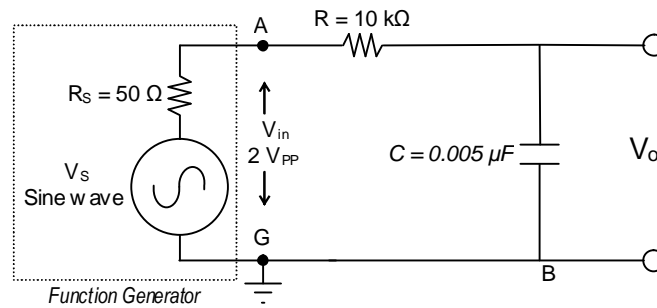

Figure 7.2 Low-pass filter
- b. Using the measured components, set up the circuit as shown in Figure 7.2. Use the function generator FGEN for the supply voltage.